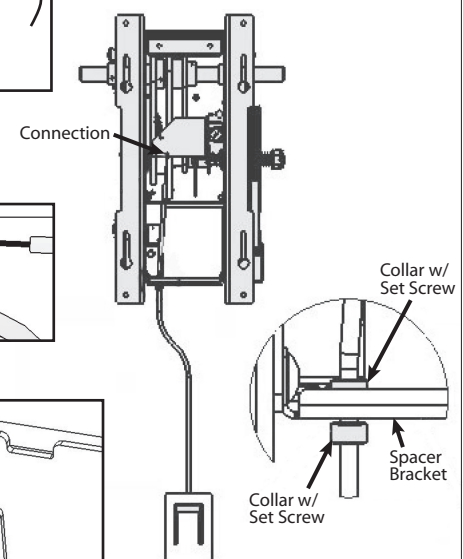

Figure 7
3. Slide the second collar over the end of the cable and jacket. **Do not tighten (Figure 7).**